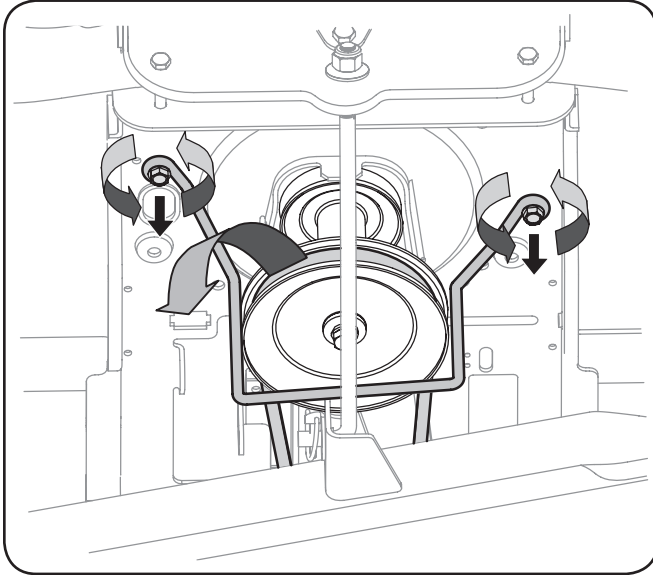

Figure 7-1
3. Locate the PTO clutch under the front of your tractor. See Figure 7-1.
4. Remove the belt guard and belt as follows. Refer to Figure 7-1:
11. Replace the belt guard. See Figure 7-1.